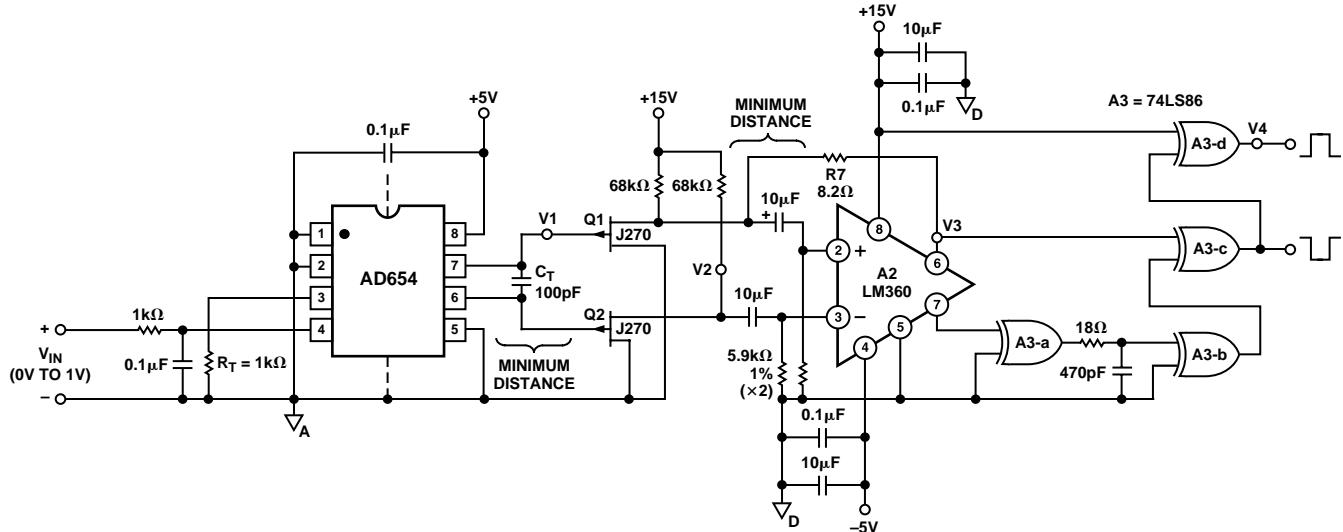

Figure 13. 2 MHz, Frequency Doubling V/F
Figure 13 illustrates this with a circuit offering 2 MHz full scale. In this circuit the AD654 is operated at a full scale (FS) of 1 mA, with a  $C_T$  of 100 pF. This achieves a basic device FS frequency of 1 MHz across  $C_T$ . The P channel JFETs, Q1 and Q2, buffer the differential timing capacitor waveforms to a low impedance level where the push-pull signal is then ac coupled to the high speed comparator A2. Hysteresis is used, via R7, for nonambiguous switching and to eliminate the oscillations which would otherwise occur at low frequencies.
The net result of this is a very high speed circuit which does not compromise the AD654 dynamic range. This is a result of the FET buffers typically having only a few pA of bias current. The high end dynamic range is limited, however, by parasitic package and layout capacitances in shunt with  $C_T$  as well as those from each node to ac ground. Minimizing the lead length between A2-6/A2-7 and Q1/Q2 in PC layout will help. A ground plane will also help stability. Figure 14 shows the waveforms V1–V4 found at the respective points shown in Figure 13.